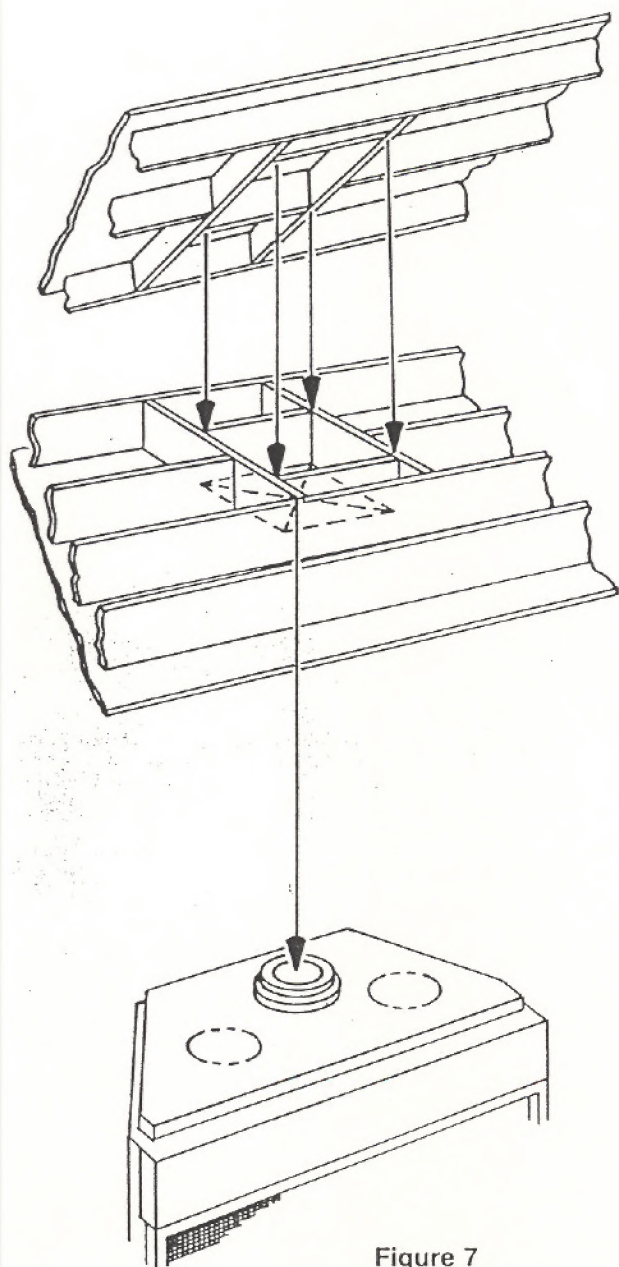

Figure 7
When planning your fireplace location, the chimney construction and necessary clearance must be considered. Figure 7 illustrates a typical one floor with attic space installation in which joists and rafters may require modification. The fireplace system and chimney components have been tested to provide the following flexibility in construction.
6. Determine point where chimney will penetrate ceiling by plumbing down to center of chimney section. See Figure 7.